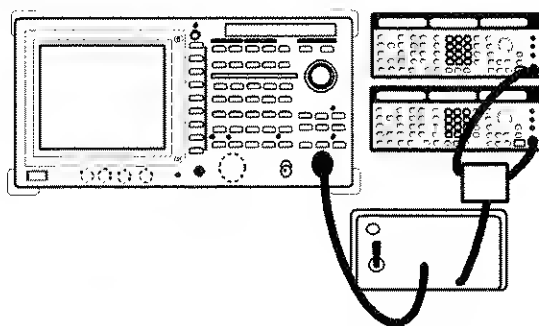

Figure 2-128 Setup for Measuring the Third Order Intermodulation Distortion
1. Connect the unit under test as shown in Figure 2-128.